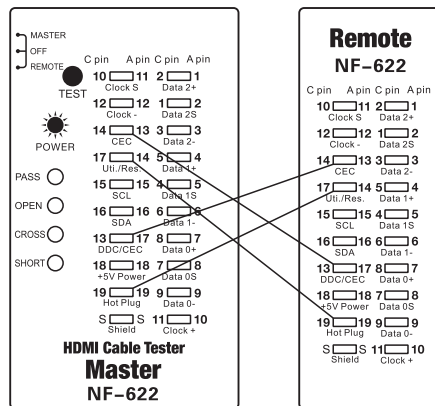

Fig 10 . Crossover
2. The test result please refer to the slow continuity scan testing function. (Fig 7. ~ Fig 10.)